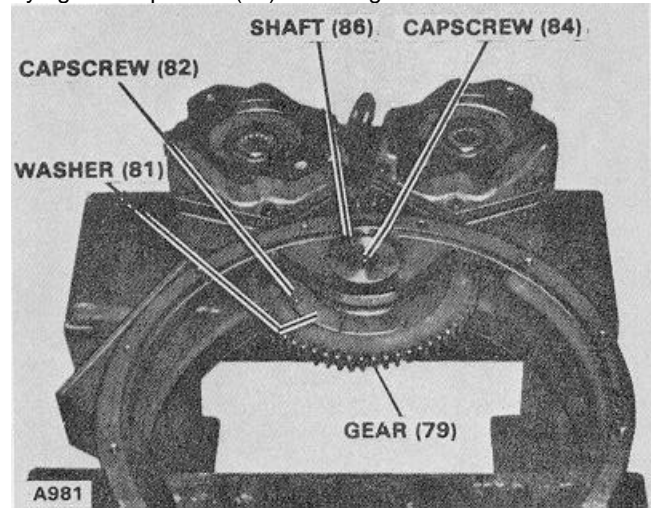

Figure 4D-5. Idler Gear Installation
1. Drive ring (72) will remain mounted on the engine flywheel and should only be removed if there is excessive wear on the teeth or runout on the flywheel is noted.
2. Remove drive spider (75) and drive gear (77), with bearing (76), from shaft (71). If bearing (76) needs replacing, remove snap rings (73) and push the bearing out from the bore of the drive gear.
3. Remove capscrews (95) and pull housing (53) off of housing (96). Set housing (53) on a workbench for further disassembly.
4. Remove cap screw (84), with washer (85), and using a puller arrangement pull idler shaft (86) out of housing (53). Idler gear (79) and bearing (80) can then be removed by moving the assembly toward the center of housing (53).
5. Remove capscrews (82) and split washer (81). Push bearing (80) out of gear (79).
6. Remove and replace O-ring (78).
8. Install O-ring (78) on housing (53). Press bearing (80) into gear (79) and secure in place with split washer (81) and capscrews (82).
9. Set the gear assembly into housing (53) and press in shaft (86). Set washer (85) on shaft (86) then install and fully tighten cap screw (84). See Figure 4D-5.